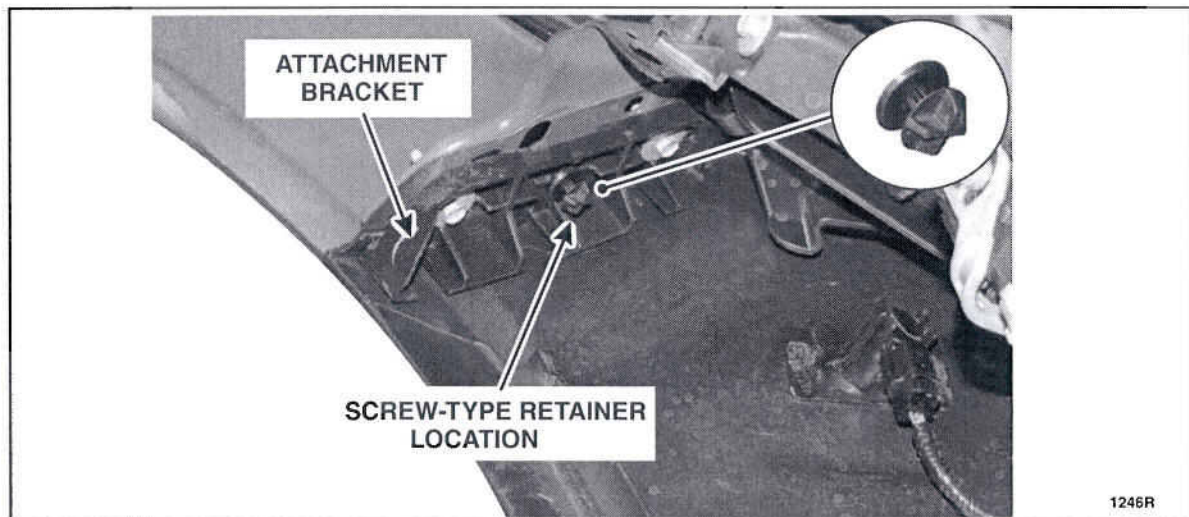

FIGURE 5
6. Inspect the attachment bracket to see if a screw-type retainer is installed. If present, remove and discard. If not present, proceed to step 7. See Figure 5.